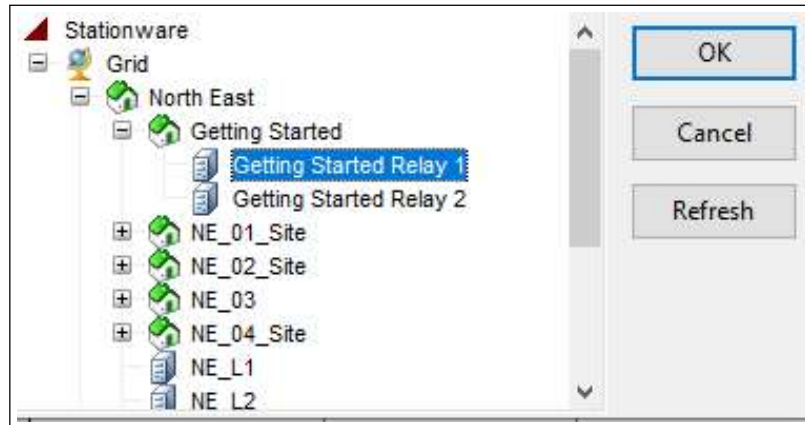

Figure 24.13.24: Browser dialog
**Select Device ID...** starts the Browser dialog (Figure 24.13.24) to link this device to a *StationWare* device. The dialog is subject of Section 24.13.6 : The Browser dialog.
A more convenient way is to use the Browser dialog shown in Figure 24.13.24. The dialog allows to browse through the *StationWare* location hierarchy and select a device. The hierarchy data is cached to minimise network accesses. Due this caching it's possible that there may exist newly created locations or devices which are not displayed in the browser dialog. The **Refresh** button empties the cache and enforces *PowerFactory* to re-fetch the correct data from the server.